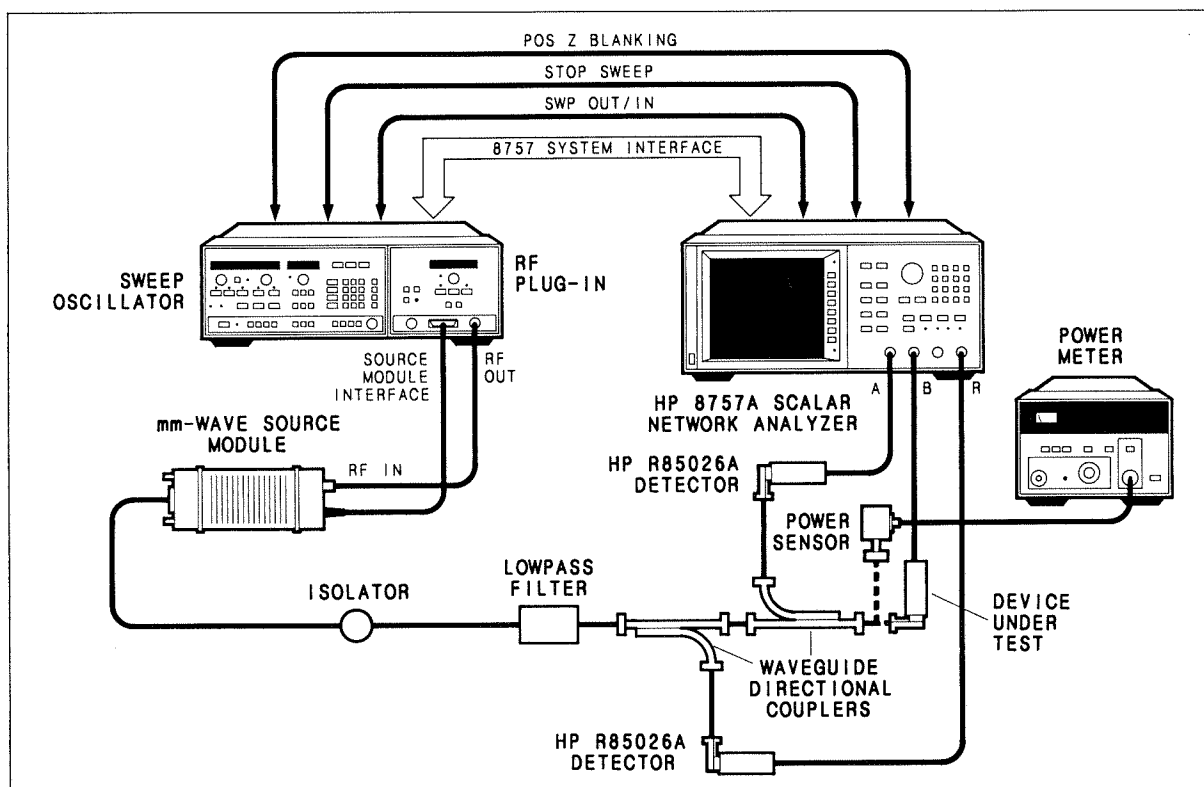

Figure 3-2. Flatness Performance Test Setup
1. Connect equipment as shown in Figure 3-2 with the power sensor connected to the coupler and allow the equipment to warm up for 30 minutes.
13. Disconnect the power sensor from the coupler. Connect the HP R85026A detector as shown in Figure 3-2.